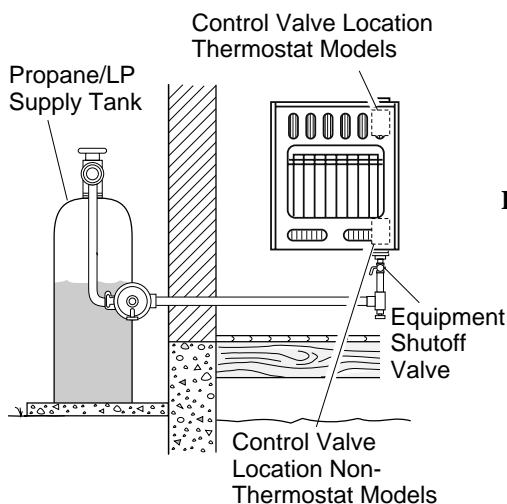

Figure 17 - Checking Gas Joints
3. Check all joints from propane/LP supply tank to equipment shutoff valve (see Figure 17). Apply mixture of liquid soap and water to gas joints. Bubbles forming show a leak.